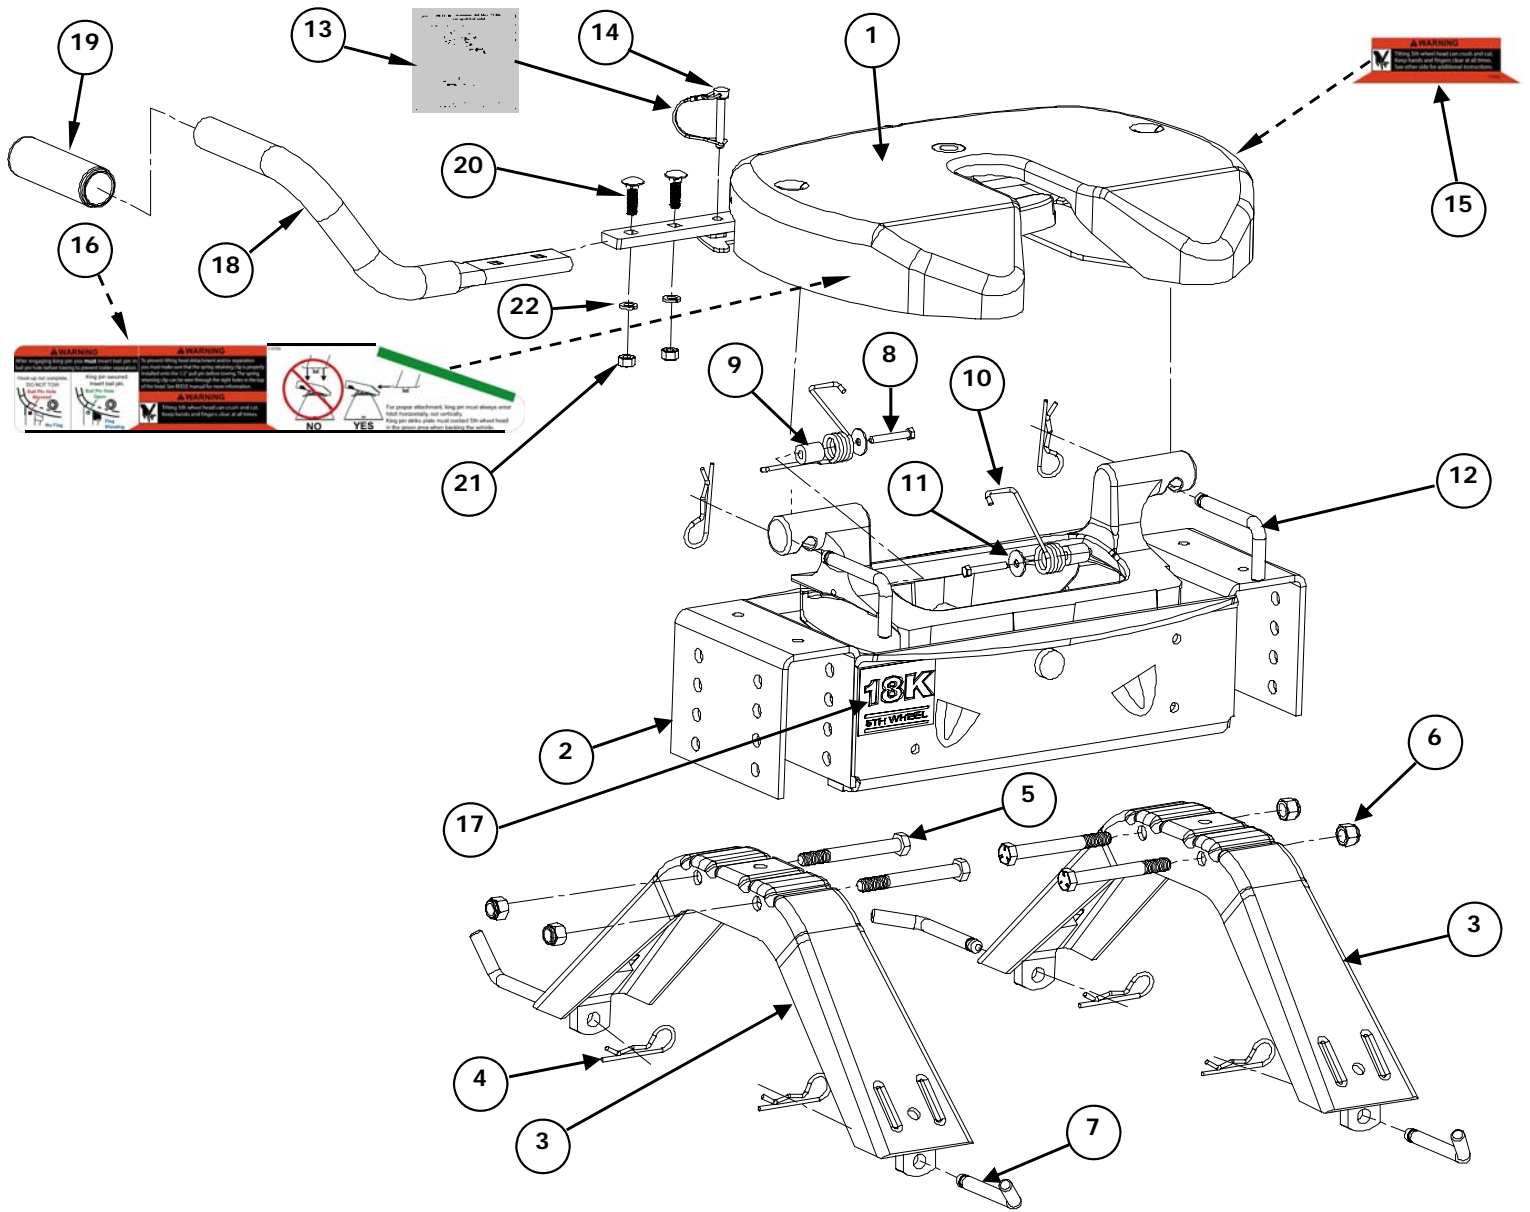

Figure 11
1. Reference Fig. 11 on page 8.
4. See that all hitch pull pins (#7 (P/N 30434) & #12 (P/N 110974), Figure 11) are in place and the spring retaining clips (#4, Figure 11) are installed (Figure 1). Note that hitch pull pins used to attach the head assembly to the center section for the 5th Wheel Kit Hitch are 90 degree bent pins and if replacements are needed, please contact Customer Service at (800) 632-3290. Check that all four anchor assembly pins are pinned and have the retaining clips attached.